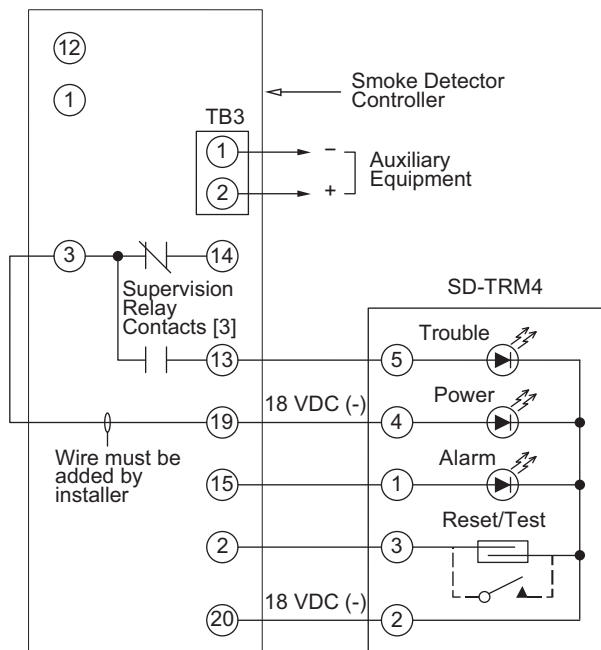

Fig. 51 — Remote Test/Reset Station Connections
The test/reset station dirty sensor test checks the test/reset station's ability to initiate a sensor dirty test and indicate the results. It must be wired to the controller as shown in Fig. 51 and configured to operate the controller's supervision relay. For more information, see "Dirty Sensor Test" on page 27.
1. Verify that the remote test/station is wired as shown in Fig. 51. Repair or replace loose or missing wiring.